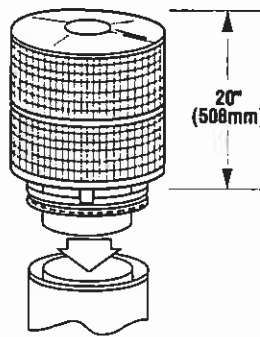

Figure 32
1. Hold CTDTM over top of last chimney section (Figure 32).